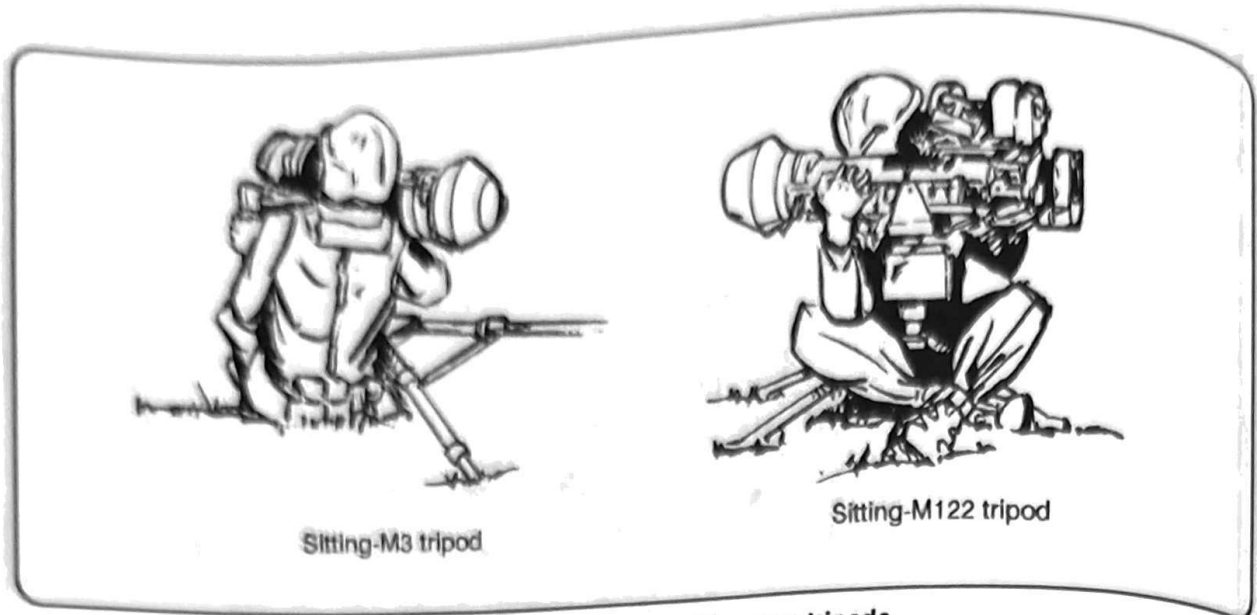

Figure 1-11. M3/M122 machine gun tripods.
b. M3/M122 Machine Gun Tripods. Either the M3 or M122 machine gun tripods (Figure 1-11) can be used to fire the Dragon from a ground support position.